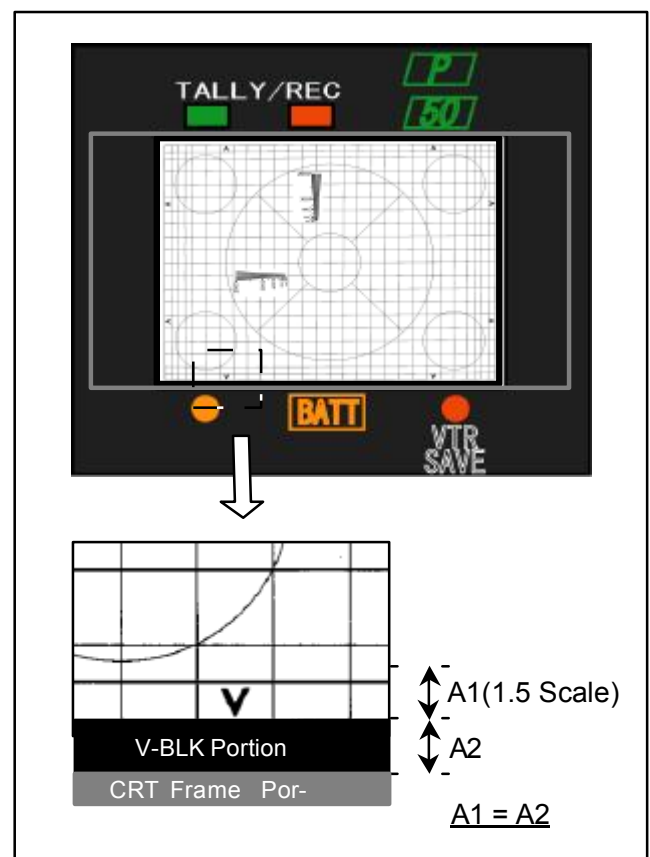

Fig.6 Screen Size Adjustment
3. Adjust **RV3** (On SUB1 BOARD) so that the width of V portion "A1" is 1.5 scale as shown in figure 6.
2. Adjust **RV3** and **RV8** so that the width of H blanking at the both side is 1.5 scale as shown figure 6.
3. Adjust the centering magnet so that the picture is positioned in the escutcheon shown in figure 6.